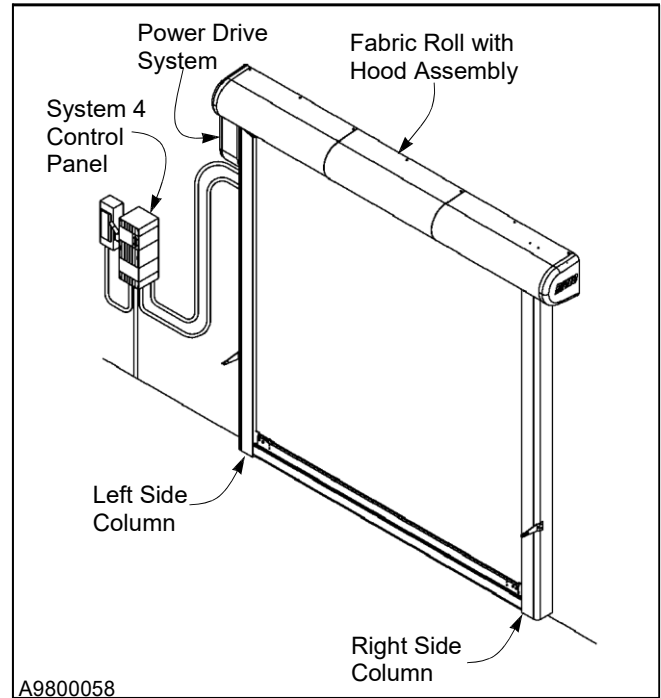

Figure 1
To obtain your **DOOR SERIAL NUMBER**, there are three universal locations where this information can be found. These are at the inside of left side column (approximately eye level), on the drive motor, and on the door of the System 4 control panel. (See Figure 1)
5. The Rytec control box and a fusible disconnect should be installed prior to the start of the door installation. (See Figure 1 for layout.)